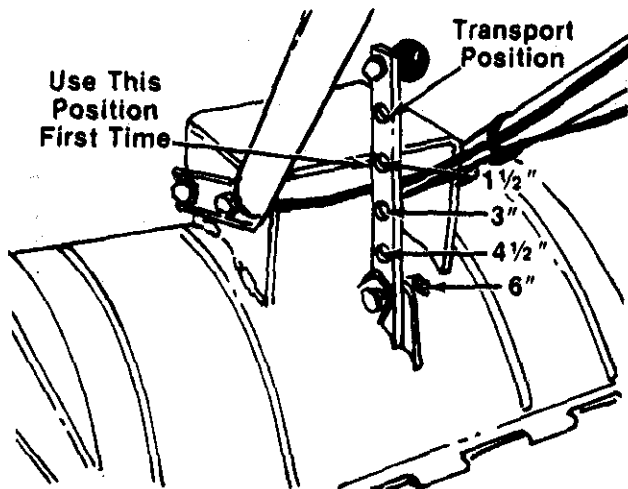
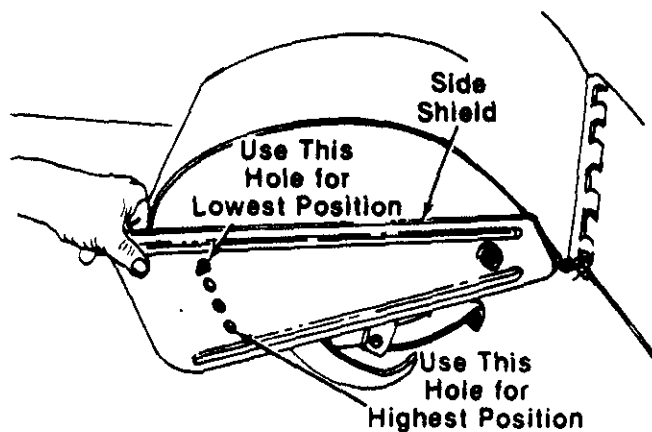

FIGURE 15.
FIGURE 16.
When operating the tiller for the first time, use the depth bar setting that gives 1½ inches of tilling depth (second hole from the top). Refer to figure 15. Use slow speed only.
Tilling depth is controlled by the depth bar which can be adjusted to five different settings. See figure 15. Adjust the side shields as shown in figure 16, as you adjust the depth bar. Be certain spark plug wire is disconnected and grounded against the engine.
1. When using the tiller for the first time, use the second adjustment hole from the top (1½" of tilling depth). See figure 15.
To adjust the depth bar, remove the clevis pin and hairpin cotter. See figure 15. Move the depth bar to the desired setting.
To adjust the side shields, remove the hex nut and belleville washer from the front and loosen the rear nut. See figure 16. Pivot the side shield to the desired position. Replace hex nut and belleville washer. Tighten securely.